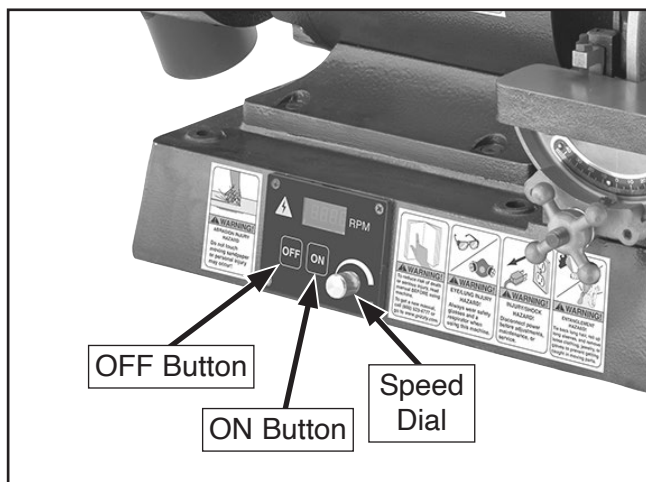

Figure 27. Control panel controls.
6. Turn speed dial all the way counterclockwise (see **Figure 27**).
8. Press ON button (see **Figure 27**), then turn speed dial ¼-turn clockwise to turn machine **ON**. Verify belt is tracking correctly in center of platen and rollers, and fine-tune tracking with belt tracking knobs as necessary while machine is running.
9. Press OFF button (see **Figure 27**) to turn machine **OFF**.
11. Adjust (2) thumb nuts on belt tracking knobs without moving knobs so they contact frame to secure tracking setting.